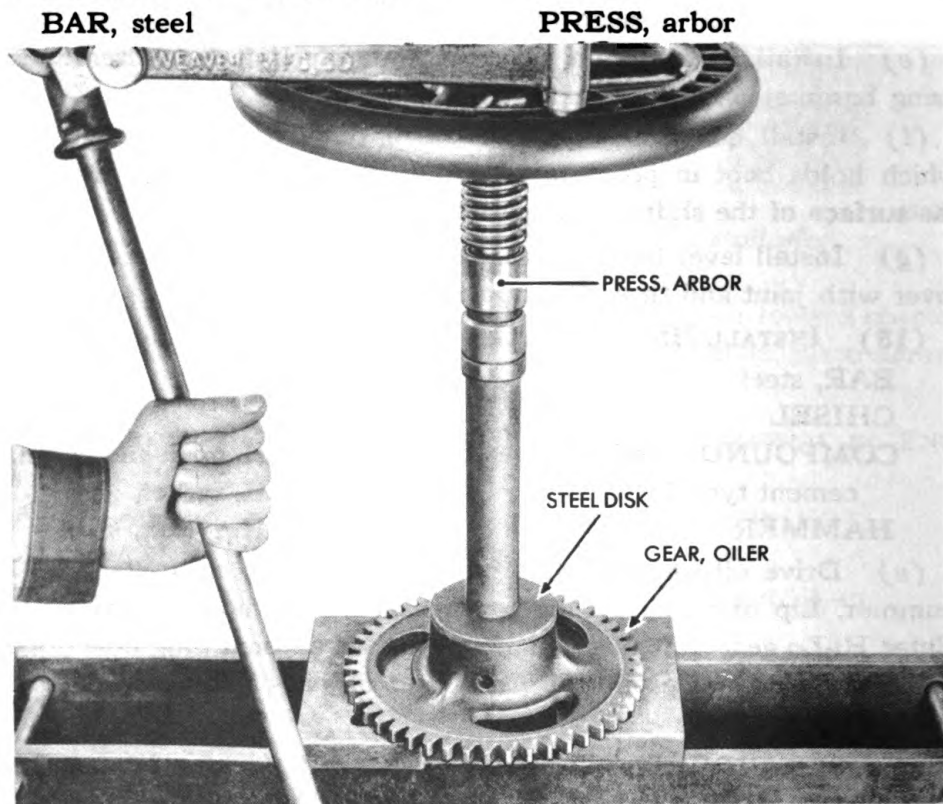

Figure 67 — Oiler Gear Bushing Installation RA PD 65987
(20) INSTALL BUSHING IN OILER GEAR (fig. 67).**DISK**, steel**PRESS**, arbor